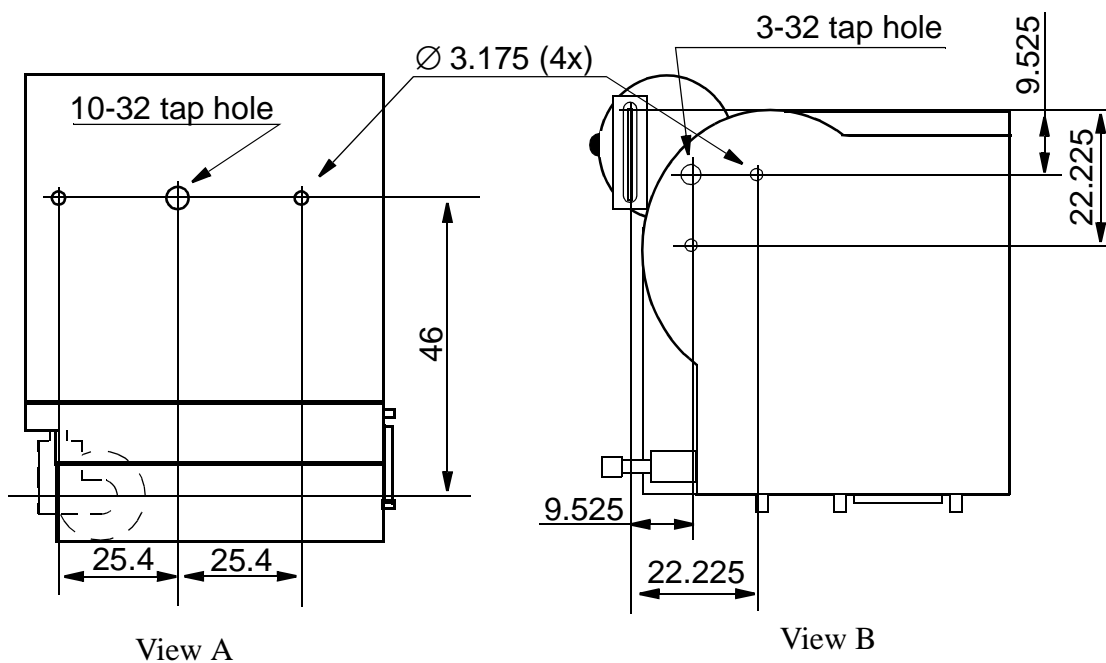

Figure 23 Mounting hole patterns on unit.
2. Use either a c-clamp or a bracket in the holes prepared in the unit (see Figure 23).